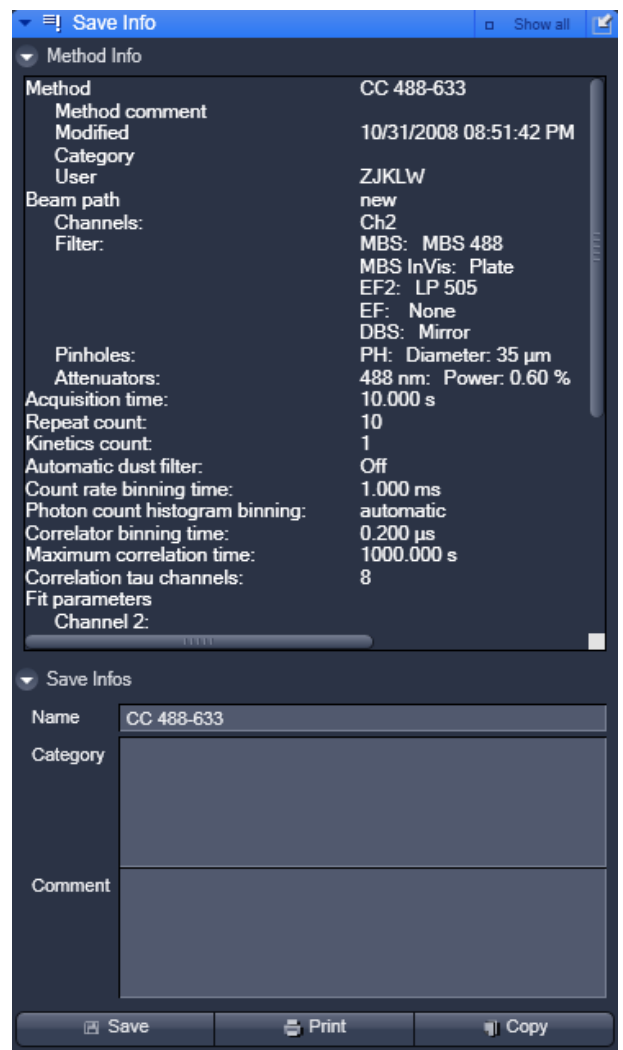

Fig. 9-73 Save Info panel
- The **Save Infos** window (Fig. 9-73) will allow you to save the settings. You can save the method by pressing the **Save** button. If the method name exists already, the system will prompt you to confirm overwriting the old method. Press **Yes** to overwrite, **No** to keep the old method settings. If the system settings deviating from default expectations, it will give a warning. For example, if no pinhole alignment was done or if a dual color experiment was set up with one channel or one laser, a corresponding warning will be displayed. Press **Yes** for continuing anyway, **No** for returning to the method without saving.